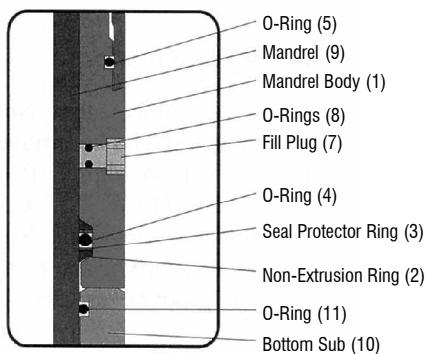

Figure 7.1
1. Install the Non-Extrusion Ring (2), Seal Protector Ring(s) (3), other Non-Extrusion Ring, and O-ring (4) into the ID of the stencil groove end of the Mandrel Body. Refer to Figure 7.1.
1. Clamp the Mandrel Body (1) securely in the vise. Refer to Figure 7.1.